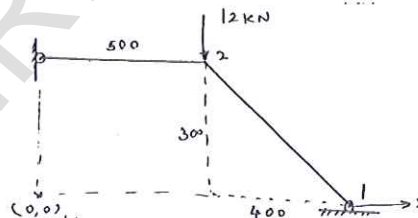

Fig. Q6(b)
b. For the two - bar truss shown in Fig. Q6(b) determine the nodal displacement. Take $E = 200 \text{ GPa}$; $A_1 = A_2 = 200 \text{ mm}^2$. (12 Marks)